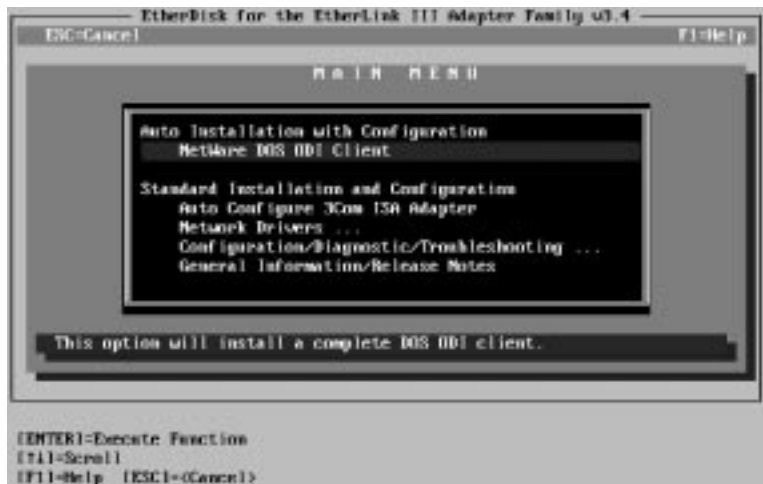

Figure 6-2. Main Menu
- 6. When the main menu shown in Figure 6-2 appears, select Configuration/Diagnostic/Troubleshooting and press [Enter].**